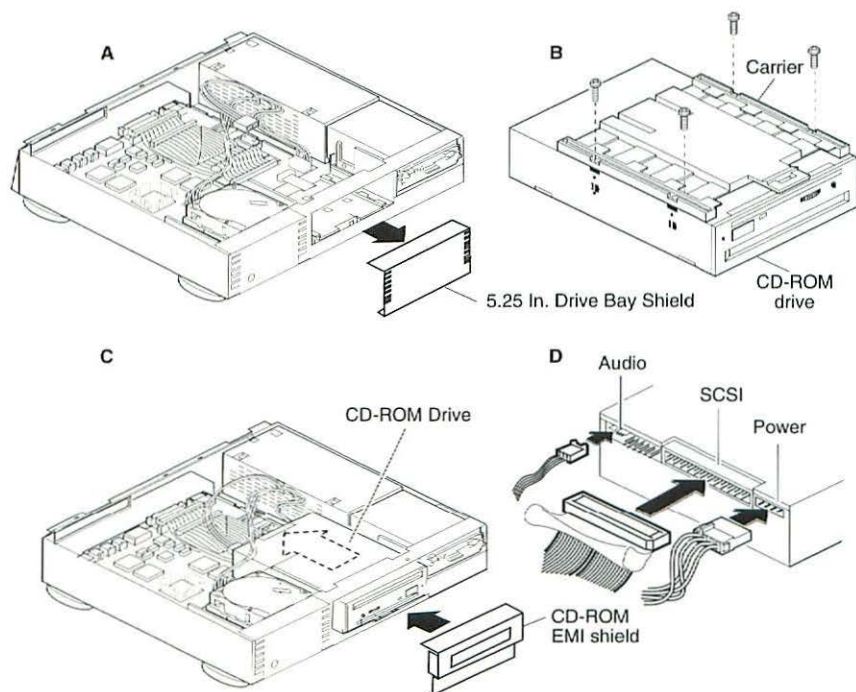

Figure 3 CD-ROM Drive Upgrade
3. Pry off the metal 5.25" drive bay shield from the chassis (Figure 3-A).
4. Attach the CD-ROM drive carrier to the CD-ROM drive with four Phillips screws (Figure 3-B).
5. Push in the CD-ROM drive and carrier, align the slots at the lower edge of the CD-ROM shield with the tabs on the bottom cover, and attach the CD-ROM EMI shield securely onto the bottom cover (Figure 3-C).
- CD-ROM drive power cable (Figure 3-D)